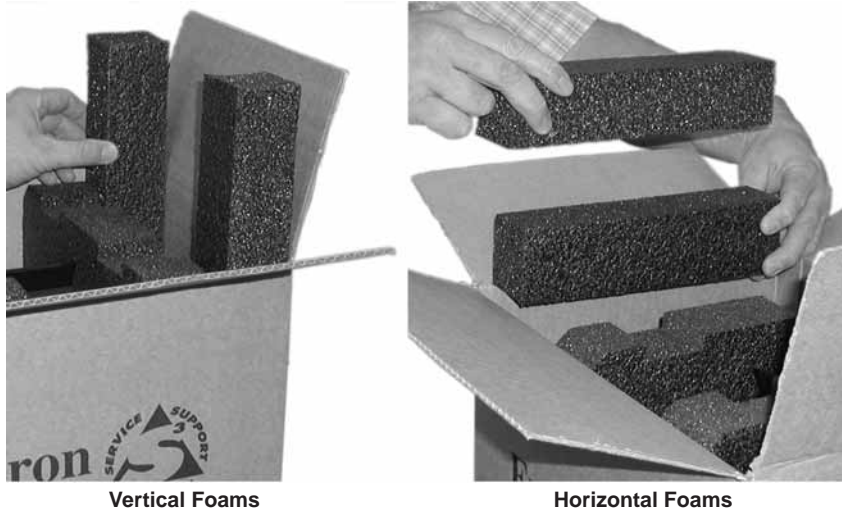

Figure B-8 — Padding the carton with foam, HSA 400 US/domestic version only.
11. **HSA 400 US/domestic version only.** These smaller HSAs in the foam shells do not fit snugly in the shipping carton. Pad either side with the extra foam that was included in the return kit. Insert the foam vertically in the carton's corners on one side of the carton and horizontally on the other side of the carton (figure B-8).